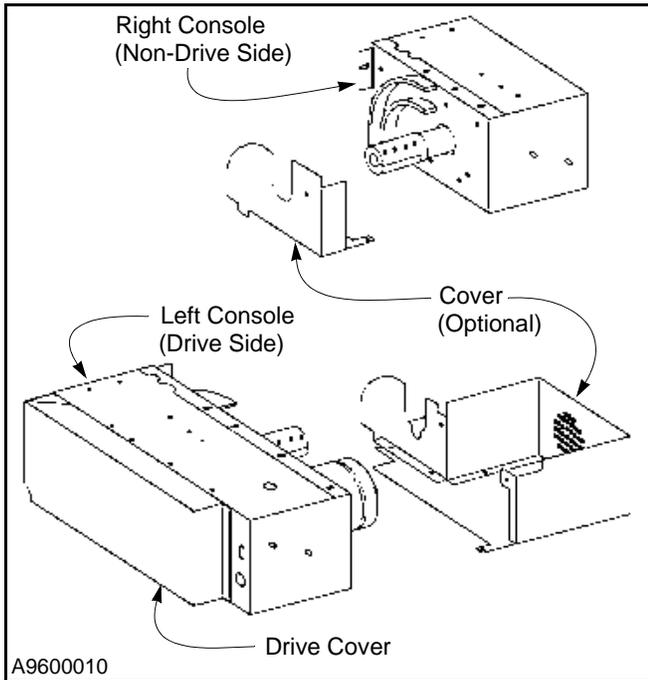

Figure 20
- Before lifting the console assembly into position, remove the drive cover. Retain all fasteners. (See Figure 20.)